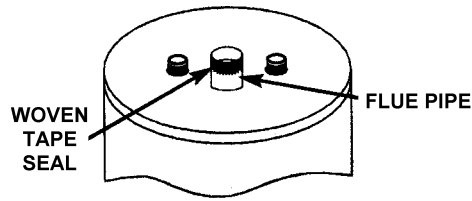

FIGURE 16.
6. Remove the paper backing from the 1 1/2" x 9 3/4" (3.81 cm x 24.77 cm) woven tape seal (found attached to the heater top) and apply the seal around the flue collar of the water heater, see Figure 16 on page 12.